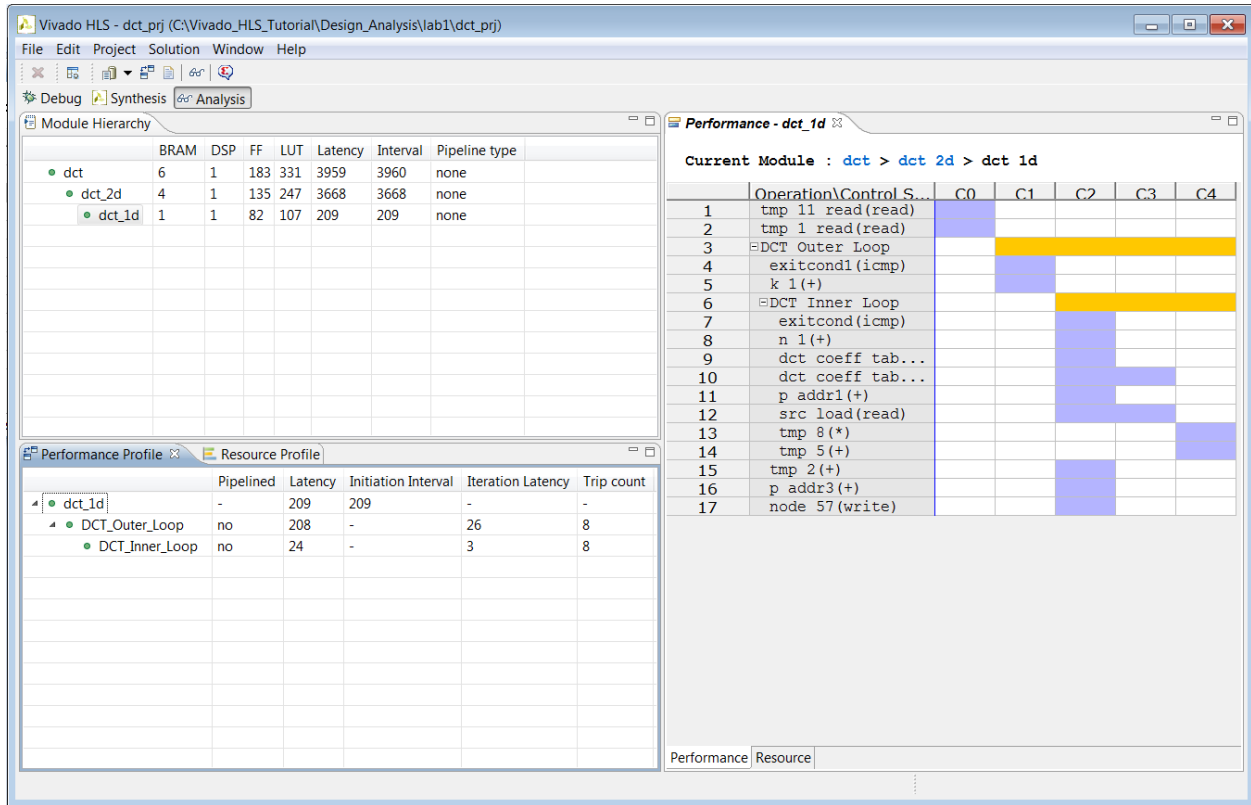

Figure 117: DCT_1D Performance View
7. Click loops Row_DCT_Loop and Col_DCT_Loop in the performance viewer to fully expand them, as shown in Figure 117.
9. Expand the loops in the Performance Profile and Performance view to see the view shown in Figure 117.
In **Figure 117** you can see a series of nested loops which can be pipelined.